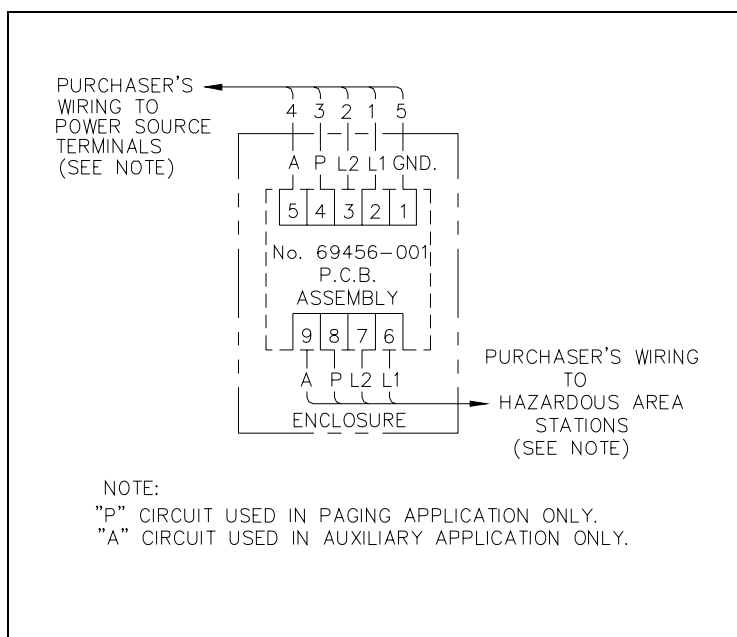

Figure 2. Centra-Page Wiring Details
Figure 2 shows the wiring details for the Centra-Page Electrical Safety Barrier. The Model 10439-102 Electrical Safety Barrier should be installed before any of the associated Station Line Cards are plugged into the Centra-Page Card Rack.
4. Wire the barrier as shown in Figure 2.